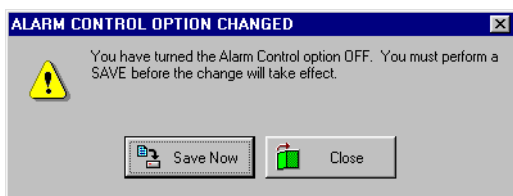

Figure 18: Alarm Control Option Changed Warning - OFF
2. To disable Alarm Control, click in the Alarm Control ON check box. The check mark that was there disappears and the following window appears (see Figure 18).